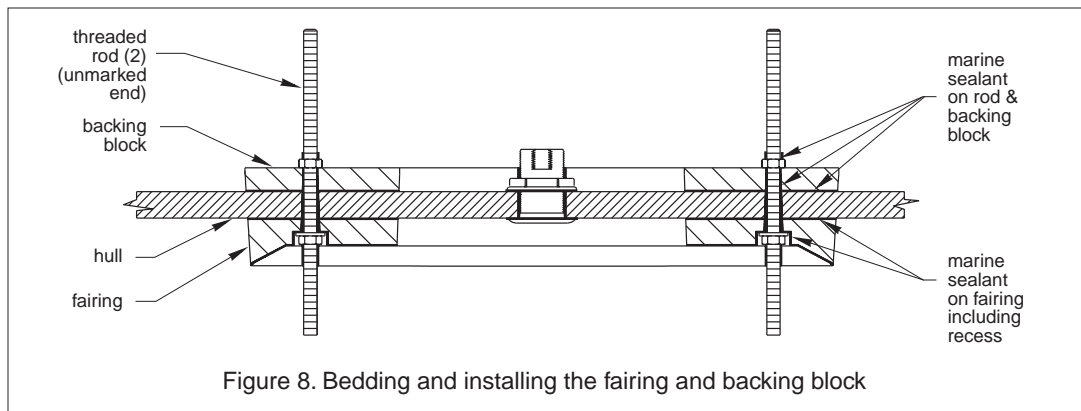

Figure 8. Bedding and installing the fairing and backing block
3. Place the fairing against the hull. Push the *unmarked* end of the threaded rod through the fairing and the hull until the nut rests inside the recess in the fairing (see Figure 8). With a person stationed inside the vessel, slide the backing block onto the rod. Secure the rod with a washer and nut. *Hand tighten only.*
1. Apply a 2mm (1/16") thick layer of marine sealant to the surface of the backing block that will contact the hull, to the fairing that will contact the hull, and to each threaded rod. Slide a washer along the unmarked length of each threaded rod until it rests against the nut (see Figure 8).
2. Push the *unmarked* length of each threaded rod through the fairing, the hull, and the backing block until the washer rests inside the recess in the fairing. With a person stationed inside the vessel, secure the rod with a washer and a nut (see Figure 8). Tighten the nuts on both rods with a wrench.